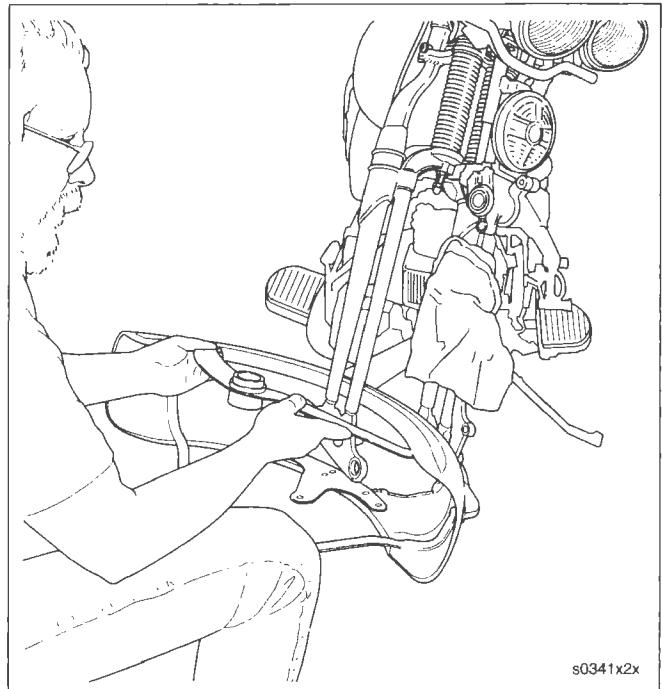

Figure 2-127. FLSTSC Fender Replacement
- b. See Figure 2-127. Rotate fender, putting fork between fender bracket and fender, and remove fender.
- a. See Figure 2-127. Install fender by keeping right fork leg between fender and struts and rotating fender towards the left leg position.